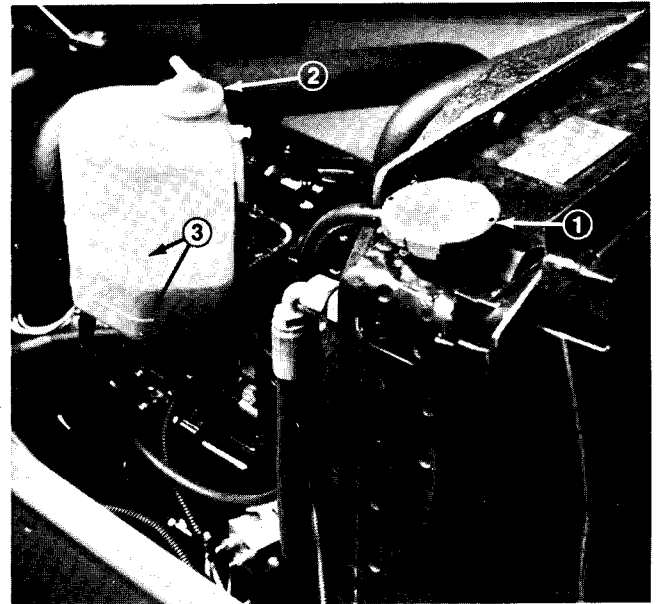

Figure 21a
1. Open the hood. Remove the radiator cap (Fig. 21a).